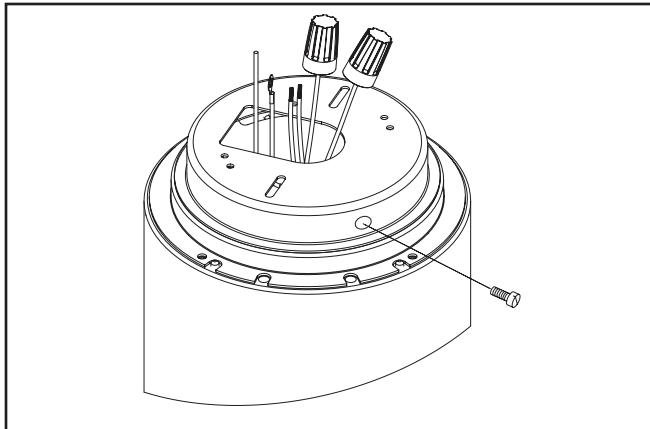

Figure 1.
2. Rotate the mounting plate in anticlockwise direction to separate from assembly and to remove from cylinder. (Figure 1.)